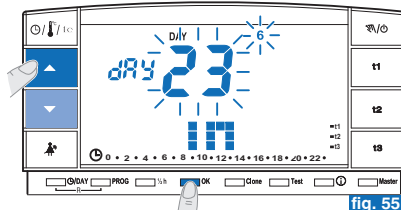

fig. 55
- Confirm with **OK** (fig. 55).